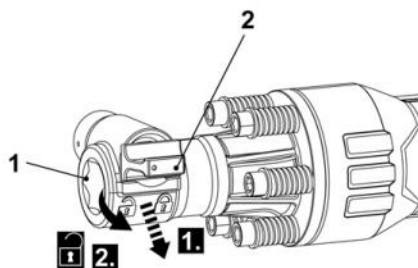

Fig. 1
- > Clean and lightly grease the tool shank end (11).
- > Ensure the locking bolt is on the UNLOCK position. Pull and turn the locking bolt (2) by 180° to free the chuck (1) entry if necessary (Fig. 1).